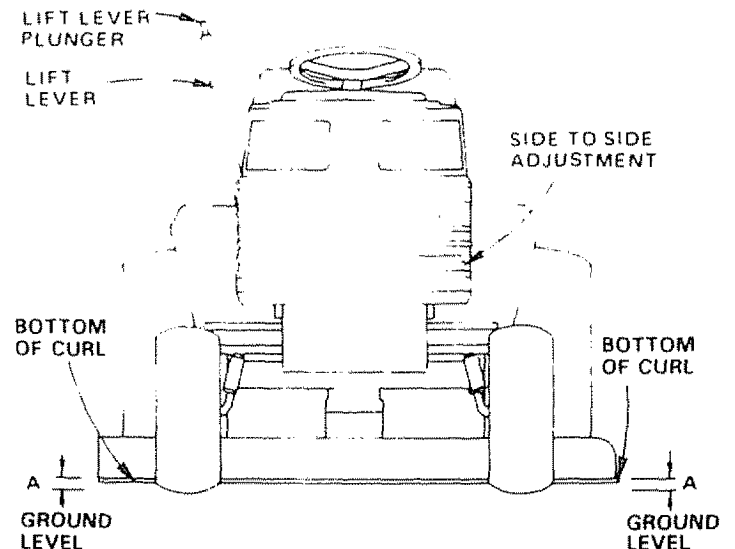

FIGURE 34
- Depress lift lever plunger and use lift lever to raise mower to maximum cutting height (Fig. 34)
- Measure height from bottom of curl to ground level at front of mower. Distance "A" should be the same (Fig. 34).